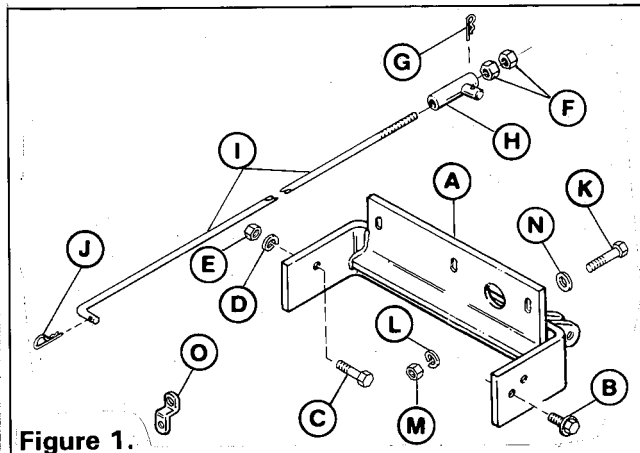
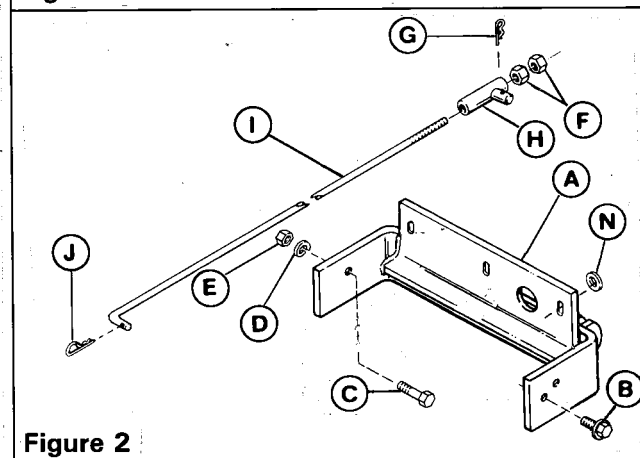
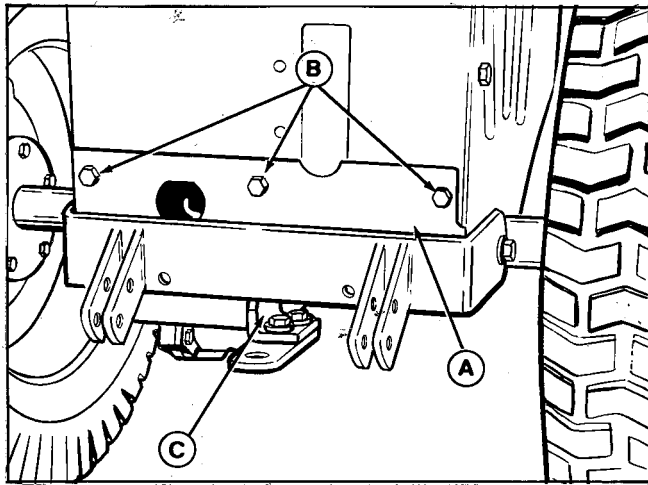

Figure 1.
Figure 2.
**Figure 8. Typical Installation**
Not all of the parts will be needed. To install the kit on tractors that have a variable speed control lever, see figure 1. To install the kit on other tractors, see figure 2. The identification of the parts for both figures is below the figures. The quantity of each part for figure 1 is shown in the left column and for figure 2 in the right column.
- a. Attach the hitch (A, figure 1) to rear of tractor with three 3/8 x 1 capscrews (K), 3/8 plain washers (N), 3/8 lockwashers (L) and 3/8 nuts (M). Hitch is shown installed in figure 4.
- b. Attach the left side of the hitch with the new flange screw (B, figure 1) and the capscrew, lockwasher and nut that were removed earlier. Use mounting holes shown in figure 3 (the flange screw is threaded into the transmission thru the front hole).
- c. Attach the right side of hitch to tractor frame with the capscrew (C, figure 1), lockwasher (D) and nut (E).
| ITEM | NAME                         | Fig. 1QTY. | Fig. 2QTY. |
1. Insert the front end of the lift rod thru the hole in the tractor lift lever (underneath tractor). Install the clip (J, figure 1 or 2) thru the end of the lift rod.
3. Install the guide tube (H) and nuts (F) onto the end of the lift rod. (Be sure tube is installed as shown in figure 1 or 2 with short side toward rear). Insert the prong of the guide tube thru hole in attachment lift arm and install the clip (G) thru the prong. Figure 8 shows a typical installation.
4. Operate the tractor lift lever to be sure the attachment can be raised for transportation and lowered for operation. Move the nuts (C, figure 8) toward the guide tube to increase ground clearance when attachment is in raised position. Move the nuts away from guide for more depth. Tighten nuts together.
4. The bracket (O, figure 1) is used on the tiller. Unhook the spring (A, figure 5) from the screw and remove both nuts. Place the bracket (B) on the screw and install outer nut. Hook the spring (A) into the hole in bracket.
4. Attach the hitch and drawbar to the tractor with the drawbar hardware which was removed in step 1 and three 3/8 washers (N, figure 1) from kit. See figure 7.
- a. Secure the right side of the hitch with capscrew (C, figure 2), lockwasher (D) and nut (E) in mounting hole shown in figure 6.
- b. Secure the left side of the hitch with one flange screw (B, figure 2) from kit and one existing capscrew, lockwasher and nut. See figure 3.